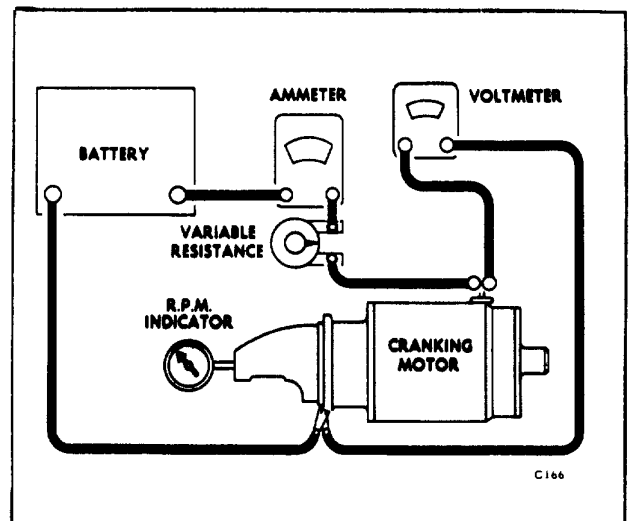

Figure 40.
1. No-load test: Connect the cranking motor in series with a battery of specified voltage and an ammeter capable of reading several hundred amperes. Read the armature RPM in addition to the current draw. (Fig. 40)